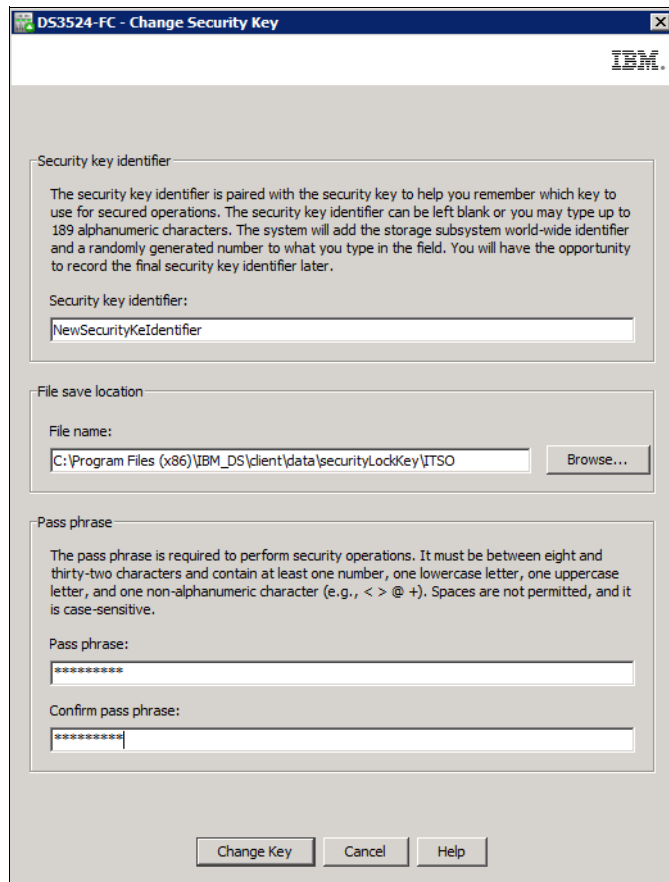

Figure 15-19 Change Security Key options
2. The window shown in Figure 15-19 opens and you are prompted to add a security identifier (optional), a location to store the key file in, and a pass phrase.